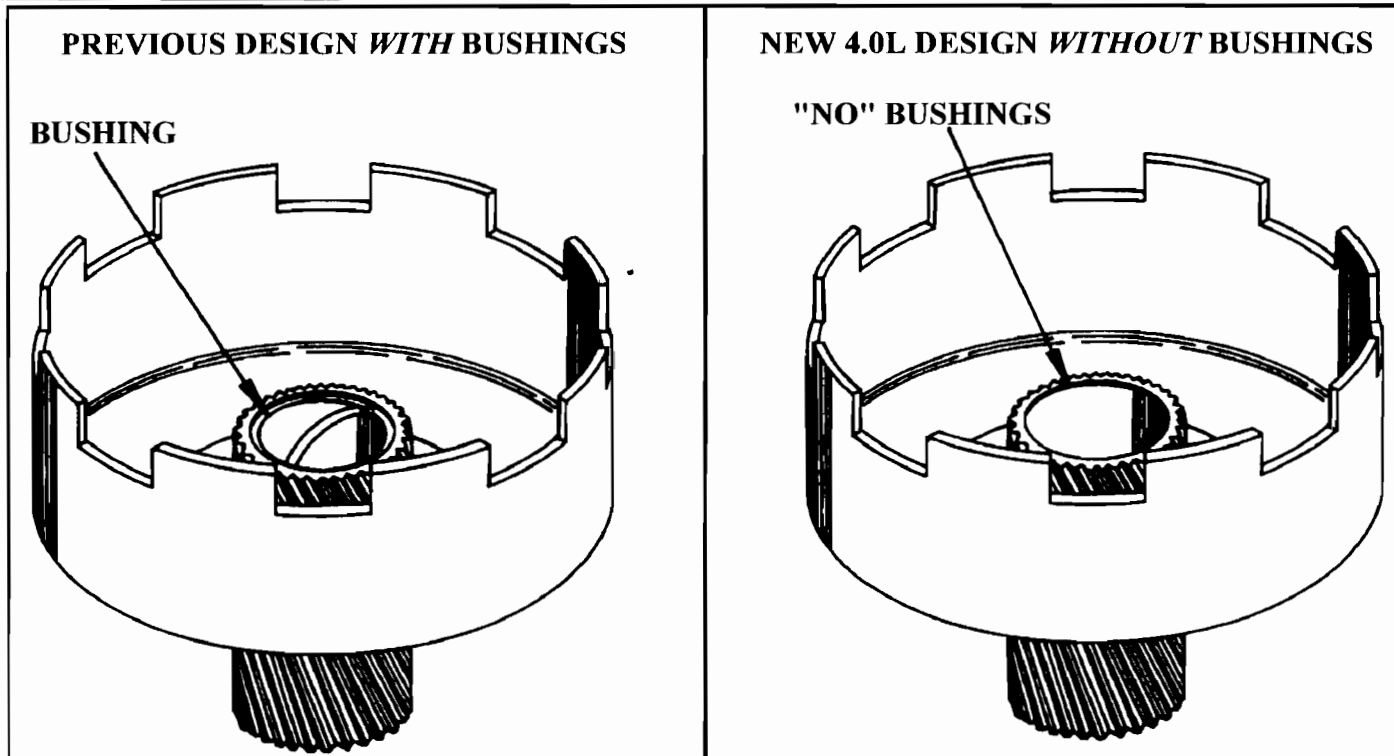

Figure 13
- (1) **SUN GEAR** - Both bushings, inside the sun gear, were eliminated to allow full lubrication flow to the front planetary (See Figure 13).
(See Figure 13).
- (2) The previous design sun gear **WITH** the bushings **CANNOT** be used forward into the 4.0L engine models (See Figure 13).